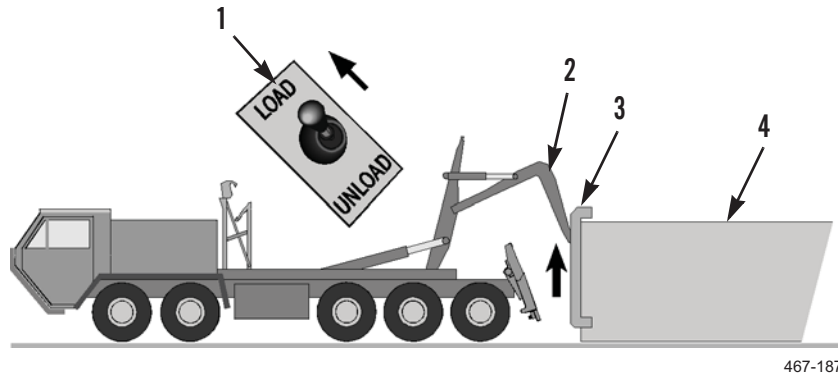

Figure 27. Detach Lift Frame from Container.
1. Keeping engine at idling speed, set joystick (Figure 27, Item 1) to LOAD (PLS: TM 9-2320-364-14&P, HEMTT: TM 9-2320-326-14&P). Hook arm (Figure 27, Item 2) will raise lift frame (Figure 27, Item 3) and upper guides (Figure 27, Item 4) from container (Figure 27, Item 4). When raised approximately 6 in. (183 cm), release joystick.